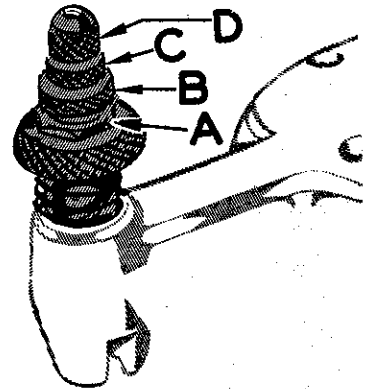

Fig. 2
Sufficient pressure to feed work uniformly should be maintained. Should it be necessary to increase or decrease amount of pressure on presser foot, loosen lock nut (A, Fig. 2) and turn adjusting screw (B). Adjusting screw has a right hand thread; so tightening increases pressure, loosening decreases pressure. When pressure adjusting screw (B) has been properly set, tighten lock nut (A). With presser foot resting on throat plate, position locking nut (C) so that its under surface is approximately 1/32 inch to 1/16 inch from the top surface of adjusting screw (E). Set cap (D) against locking nut (C).